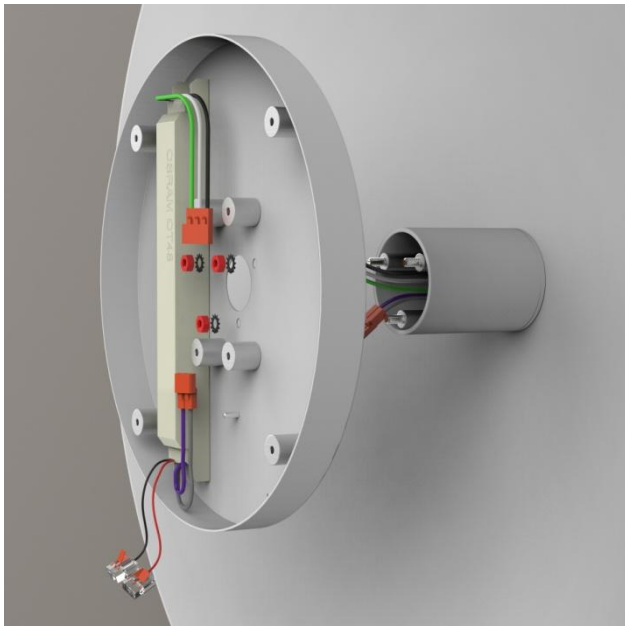

Figure 7
- Attach electrical pan over studs on bowl mount anchor (Figure 7)